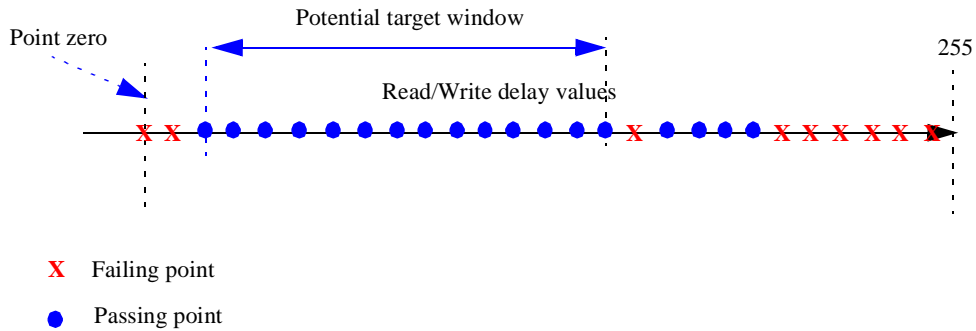

Figure 3. A Working Window
2. Search for a read window per DQS line—Starting with byte0 (for DQS0), for each read delay value of DLY_ABS_OFFSET_1, search for at least one working write delay value. If no working write delay value is found, then that value of DLY_ABS_OFFSET_1 cannot be part of the window. The procedure stated above is done as follows. For each value of DLY_ABS_OFFSET_1, starting from point zero, increase the value by 5 units each time (this saves time by not going through all values, but still provides good resolution) until it reaches the maximum value (255). While increasing, search for at least one working write value. For each set of values, invoke the typical check function with selection of byte0. The result is the read window that is used to find the write delay values in step 6. See Figure 3 for information on how a window is defined.
A target window is found by using the typical check function on the working window, which consists of large number of successful consecutive delay values as shown in Figure 3. This window is used as the target to be checked by the aggressive check function (which finds the true window).